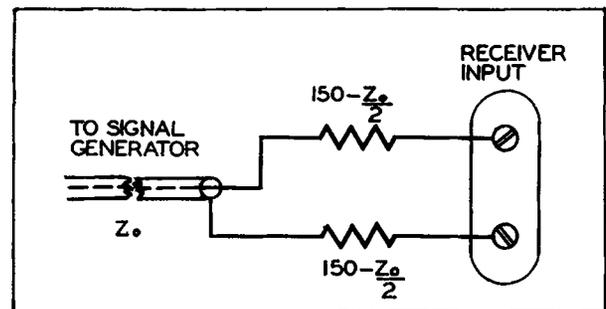

Figure 16. Dummy Antenna Connection for a Signal Generator.
(A) Connect an AM signal generator to the antenna input terminals of the receiver, matching the generator to the receiver with a resistor network. See Figure 16. The value of each series resistor, R_1 and R_2 , is equal to 150 ohms less one-half of the generator's output impedance. Thus, if the generator impedance is given as 50 ohms, R_1 and R_2 would each be 150-25 ohms or 125 ohms. The value of R_1 and R_2 plus the 50 ohms output impedance of the generator equals the 300 ohms input impedance of the receiver. Hence, the system is matched.